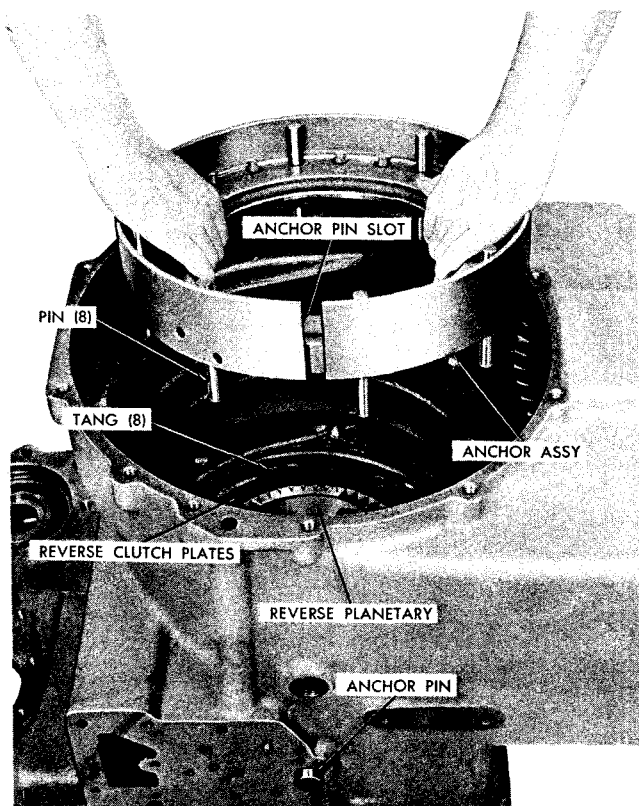

Fig. 7-5. Installing reverse-and-forward clutch anchor assembly
(3) Carefully align the tangs of the seven external-tanged plates, and install the reverse-and-forward clutch anchor (fig. 7-5). Engage the slotted tangs with the protruding anchor pins when all seven plates are engaged, approximately 2.56 inches (65 mm) clearance will exist between the top (rear edge) of the anchor and the closer snapping groove in the housing. Install anchor pin 41 (B, foldout 4) milled end first into the transmission housing. Engage the milled flats of the pin with the slot in the reverse-and-forward clutch anchor. Install anchor plug 42 (in earlier models). Temporarily install a flat washer and 3/8-16 x 3/4-inch bolt to retain the plug and pin (fig. 7-8).